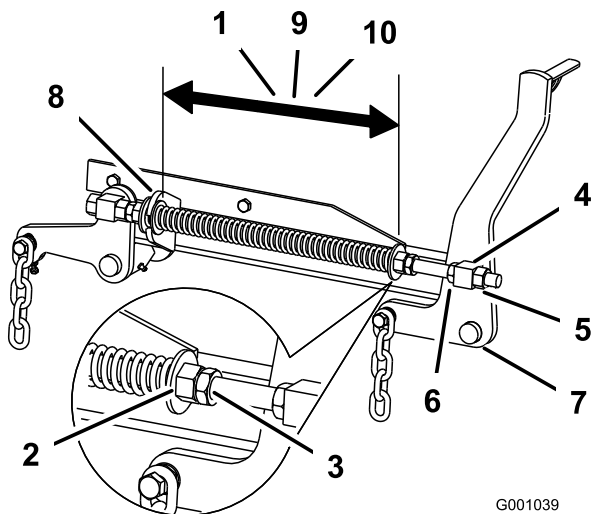

Figure 83
2. Check the distance between the two large washers, it needs to be 11-1/8 inches (28.2 cm) for 52 inch mower decks, 10-1/2 inches (26.7 cm) for 60 inch mower decks or 11-1/2 inches (29.2 cm) for 72 inch mower decks (Figure 83).
3. Adjust this distance, by loosening the spring jam nut and turning the nut in front of each spring (Figure 83). Turning the nut clockwise will shorten the spring; counter-clockwise will lengthen the spring.
4. Lock the nut into position by tightening the spring jam nut (Figure 83).